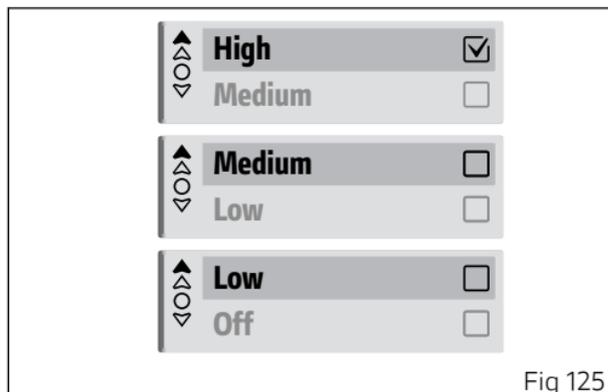

Fig 125
Window (D) is displayed for adjusting the handgrip heating; here the 4 available levels "High", "Medium", "Low", "Off" and "Back" item are listed (Fig 125).